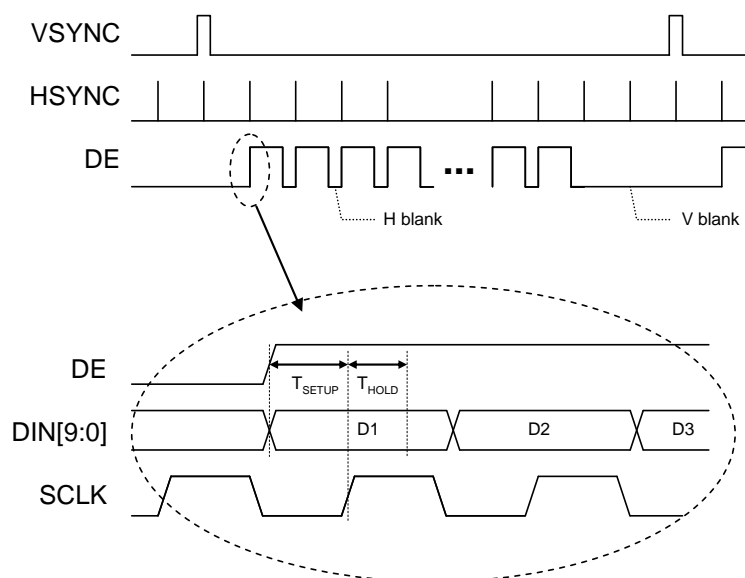

Figure 7 : Input Data timing diagram.
The 30-bit digital input port is comprised of three 10-bit data busses that make up the RGB data inputs. Separate synchronization signals (VSYNC and HSYNC) and the pixel clock (SCLK) are to be provided by the external video source. The data valid signal (DE) is used to signal the start of loading a row of data into the internal line memory. An active ENABLE signal is required for the Stereovision mode (inactive for all other modes, except Interlaced Video). The timing diagram for the input data bus is shown in Figure 7.